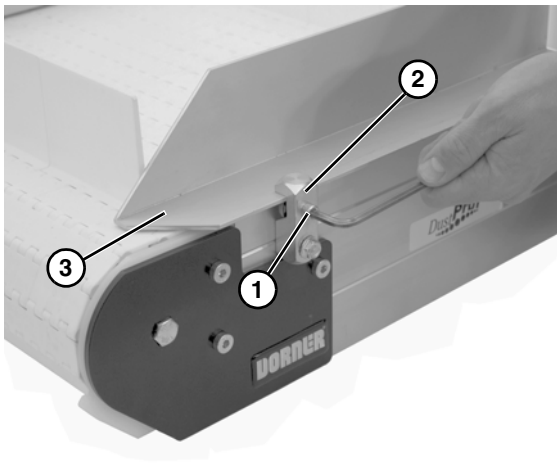

Figure 71
1. Loosen socket head screw (**Figure 71, item 1**) on guide bracket (**Figure 71, item 2**) and remove guide (**Figure 71, item 3**). Repeat on opposite side.